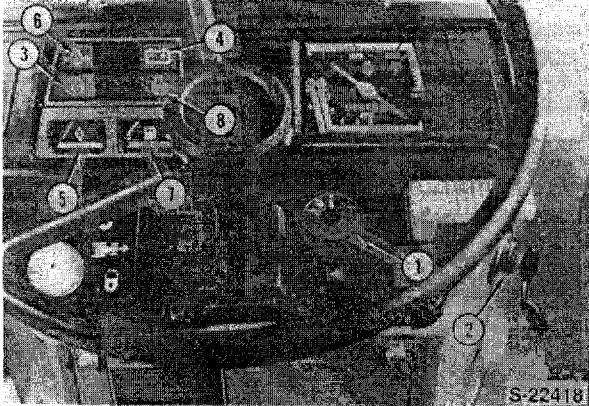
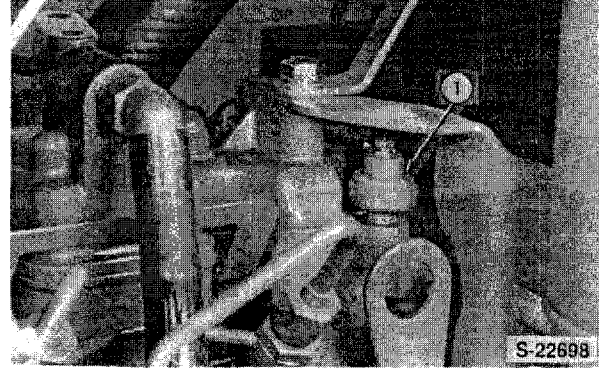

Figure 3
Figure 5
The light switch (1), Figure 3, is a dial type switch. 1st position is off, 2nd position (turn the switch clockwise) is high beam, 3rd position is low beam.
The flasher warning light switch is combined with the head light switch, Figure 3, and is located on the instrument panel.
The coolant temperature sender switch, Figure 4, senses coolant overheating, and causes the temperature gauge (5), to register, Figure 3.
The oil pressure sender switch is located on the top front side of the engine, Figure 5. The switch opens under normal oil pressure and closes at low oil pressure to illuminate the warning light (6) on the instrument panel, Figure 3.
The fuel gauge (7), Figure 3, is located on the instrument panel.